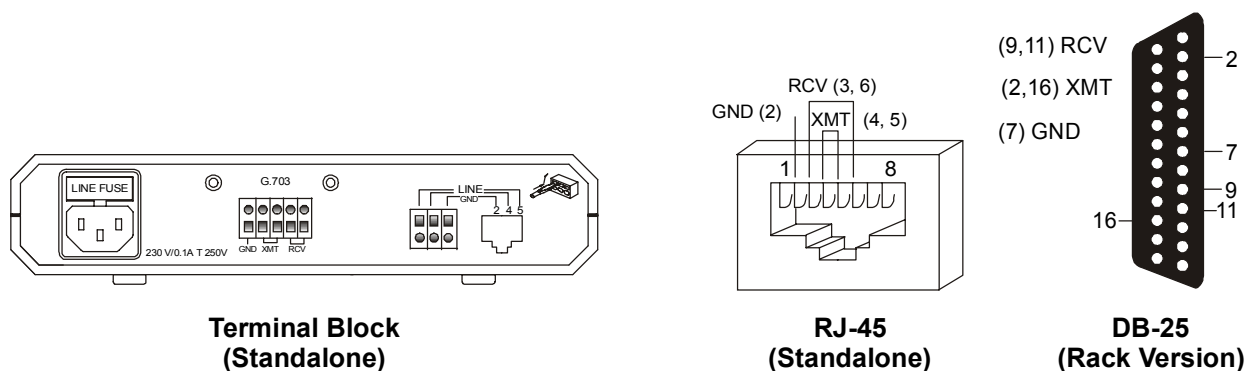

Figure B-1 IR-G.703 Connector Options
- **The Rack version** is mounted on the rack version modem card and uses the modem edge connector for communication. The edge connector is wired, on the motherboard of the card cage, to the DB-25 connector on the back plane of the ASM-MN-214 card cage. *Figure B-1* illustrates the pinout of the different connectors.
Note In Figure B-1, RCV refers to the input signals to the interface module; XMT refers to the output signals from the module.